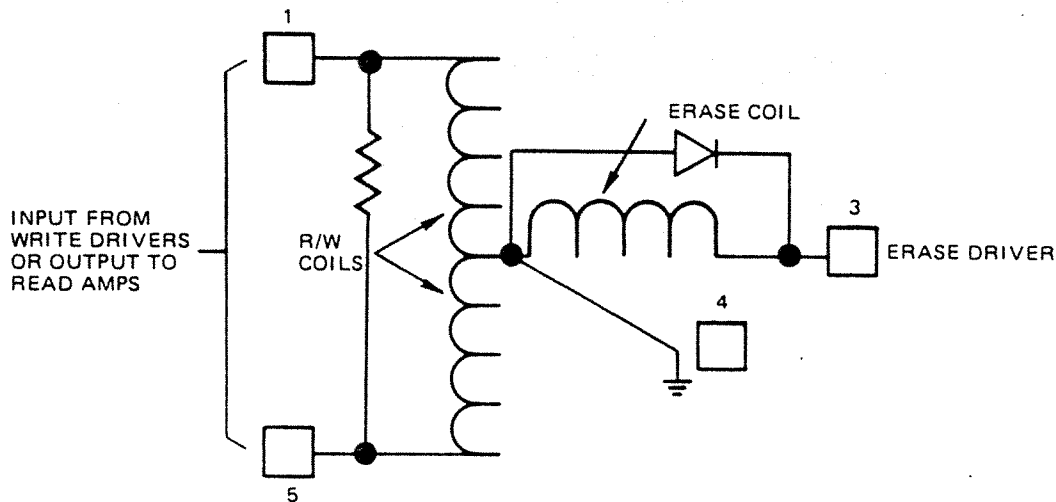

FIGURE 23. READ/WRITE HEAD
8.1 The read/write head contains three coils. Two read-write coils are wound on a single core, center tapped and one erase coil is wound on a yoke that spans the track being written. The read-write and erase coils are connected as shown on Figure 23.